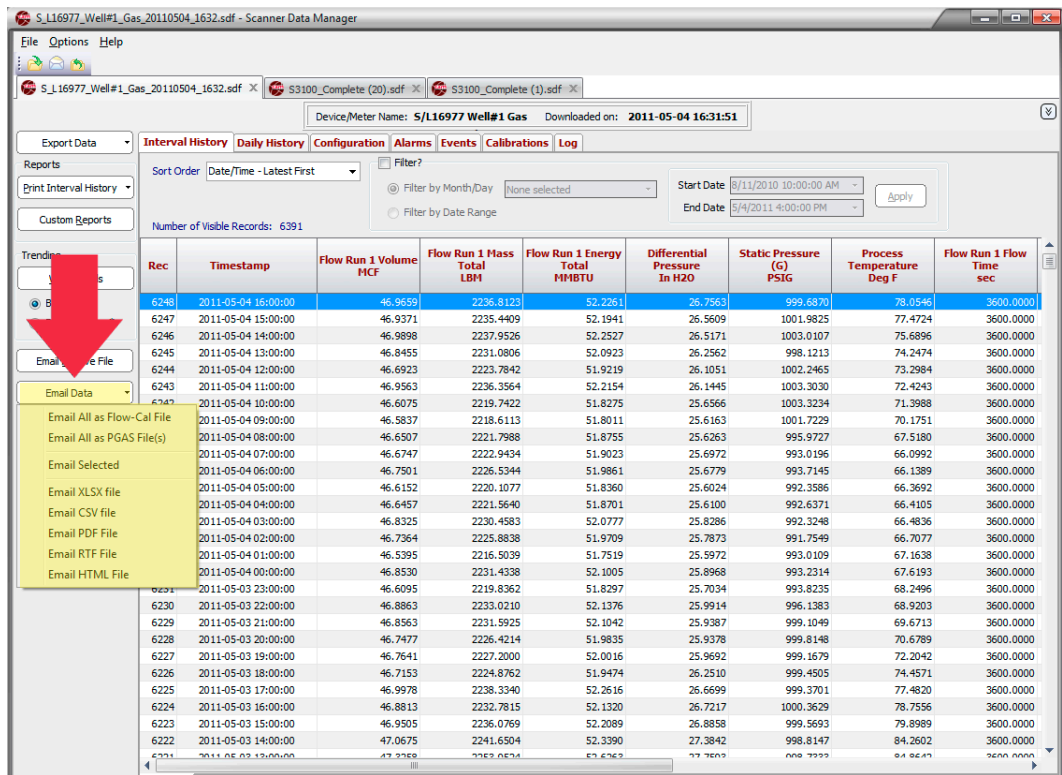

Figure 5.10—Email Data button and dropdown menu
2. Click on the **Email Data** button in the left column of the screen and choose the appropriate “Email All as...” selection from the dropdown menu (Figure 5.10, page 68).